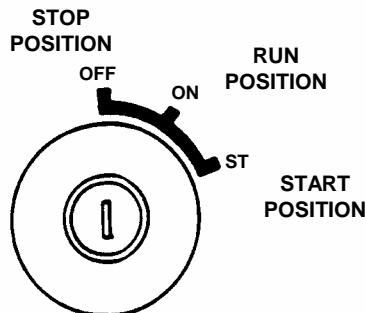

FIGURE 2.7
**6. IMPORTANT: (Diesel Engine Only)** Use the Glow Plug only if engine is cold or outside temperature is cold. Rotate key counter clockwise to the preheat position (GL letter designation on switch) to allow the glow lamp to heat up. Hold key in the Glow Plug position for a maximum of 5 seconds See Figure 2.7.
7. Rotate key clockwise to the start position until engine starts. See Figure 2.7.
1. Stop engine by turning key to the "OFF" position. Move engine speed control to turtle "SLOW" position and key to "STOP" position. See Figure 2.7.